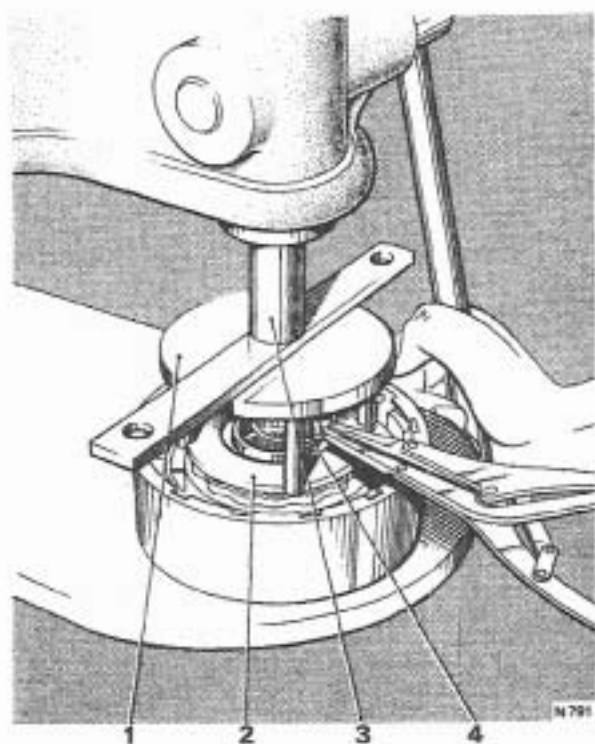

FIG. T244 REMOVING AND FITTING THE FORWARD CLUTCH HOUSING SNAP RING
6. Using clutch spring compressor RH 7965 (J-4670) in conjunction with adaptor RH 7966 (J-21664), compress the clutch return springs until the retaining snap ring is accessible. Remove the snap ring (see Fig. T244).